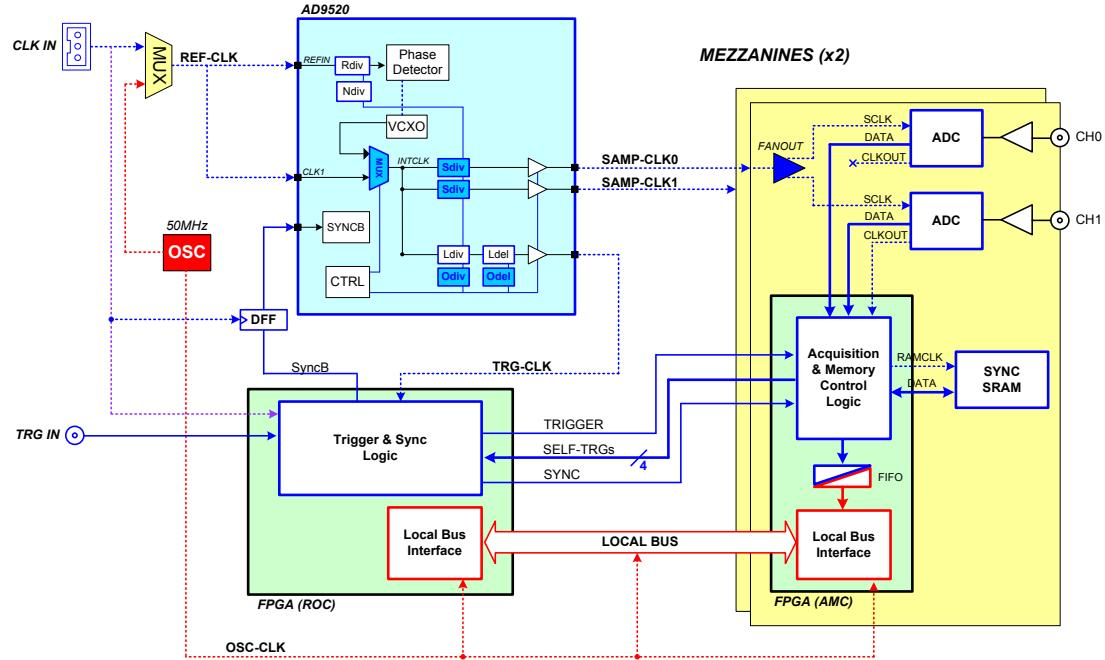

Fig. 8.2: Clock distribution diagram
OSC-CLK is a fixed 50-MHz clock coming from a local oscillator which handles Optical Link and Local Bus, that takes care of the communication between motherboard and mezzanines (see red traces in Fig. 8.2).
As introduced in Sec. **Clock Distribution**, the source of the REF-CLK signal (see Fig. 8.2) can be external on CLK-IN front panel connector or internal from the 50 MHz local oscillator.
- store a 31-bit counter value of the Trigger Time Tag (TTT). The counter (representing a time reference), like the Trigger Logic Unit (see Fig. 8.2), operates at a frequency of 100 MHz (i.e. 10 ns or 1 ADC clock cycle). Due to the way acquired data is written into the board internal memory (i.e. in 4-sample bunches), the TTT counter is read every 2 trigger logic clock cycles, which means the trigger time stamp resolution results in 20 ns (i.e. 50 MHz). Basing on that, the LSB of the TTT is always "0";